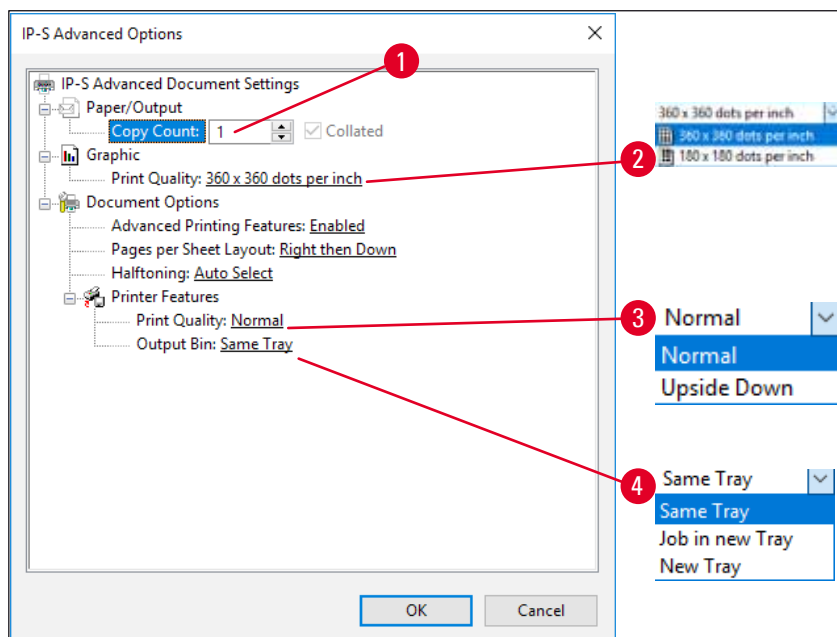

Fig. 43
**Dialogboksen Advanced Options (Avanserte alternativer) (→ "Fig. 43")**